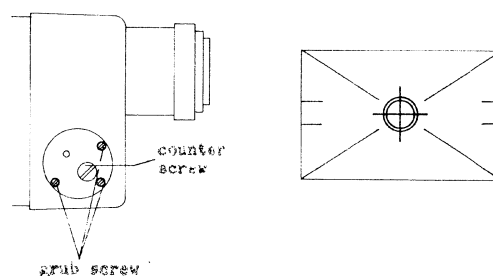

Fig. 26.1
- 9.2 Focus the double circle in the eyepiece of the spool cover; ensure that the reflected groundglass screen crosslines are centred in the double circle (see Fig. 26.1).
Corrections are possible by unscrewing the counter screw and adjusting the three grub screws on the underside of the front plate (see Fig. 26.1).
- 9.6 The groundglass screen crosslines are now off-centre in the circle; the mirror must therefore be again adjusted (see Fig. 26.1). Check the sharpness of the crosslines. Secure the mount with lens against rotation with sealing lacquer.